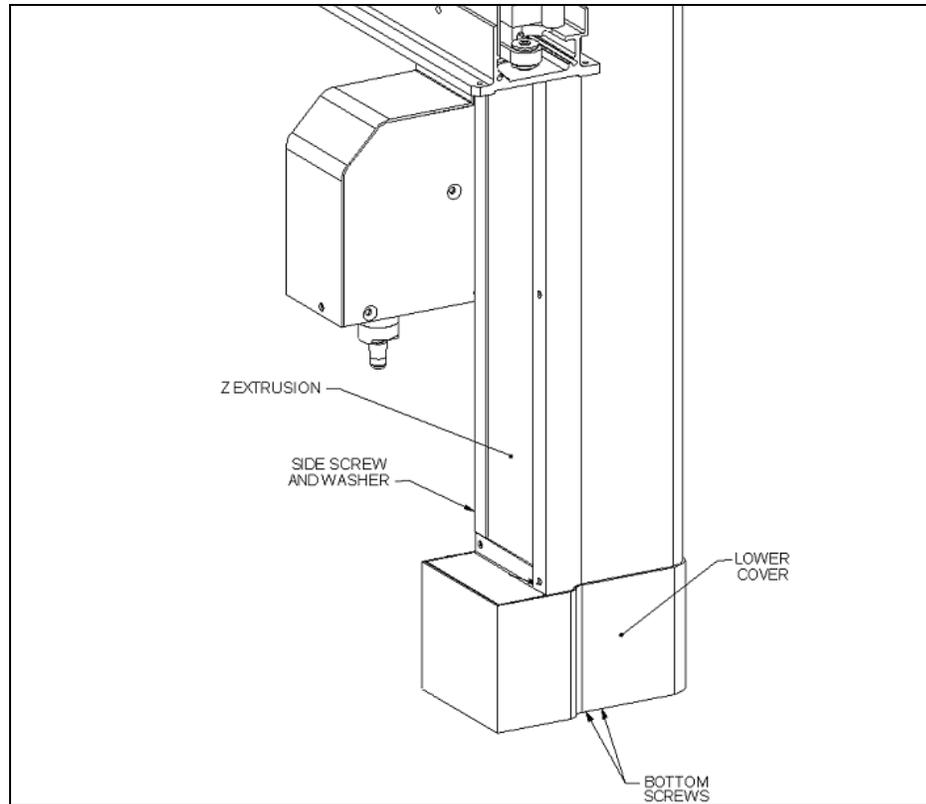

Figure 7-6 Z-Axis Drive Assembly: Bottom Cover
- 2 Remove the Z-Axis Lower Cover (Part No. 204005100) by removing the three M3 x 6 Button Head screws and shakeproof washer. There are two screws on the bottom and one on the side with a shakeproof washer (Figure 7-6).